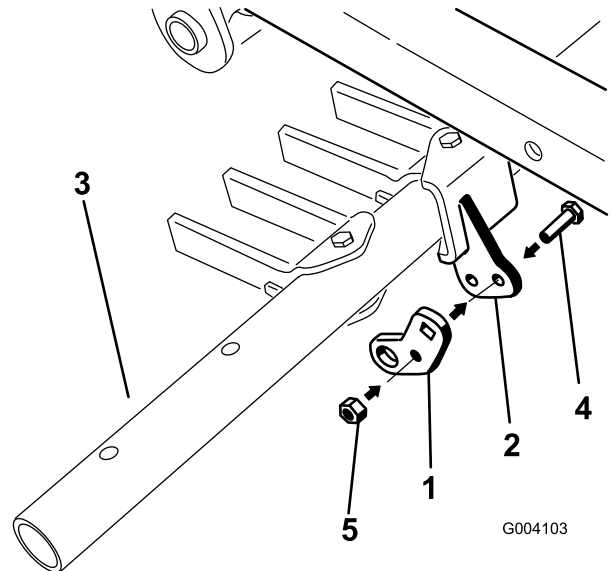

Figure 14
2. Loosely install the center hole of the pivot tab to the pivot bracket on the toolbar using a bolt (5/16 x 1 inch) and a locknut (5/16 inch) (Figure 14).